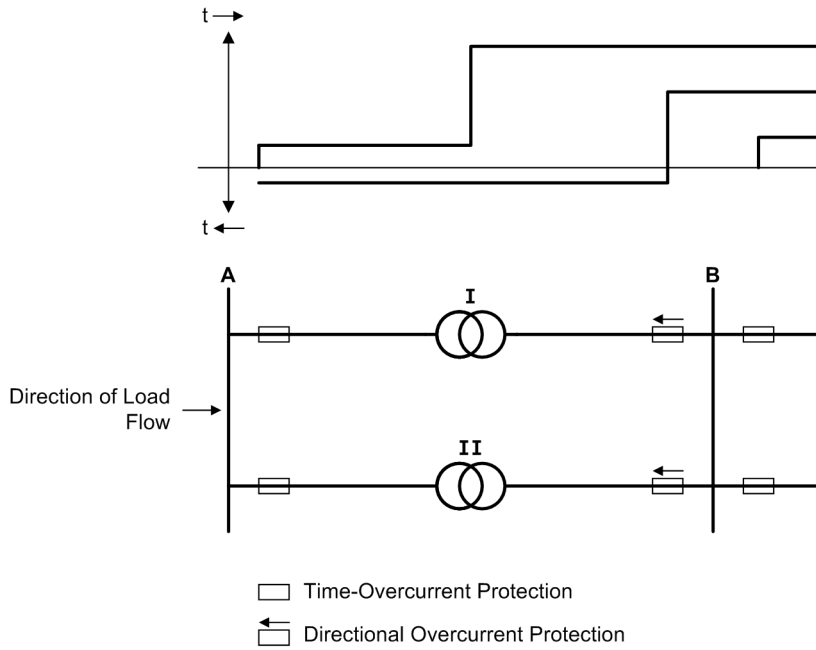

Figure 2-17 Overcurrent protection for parallel transformers
For parallel lines or transformers supplied from a single source (Figure 2-17), the second feeder (II) is opened on occurrence of a fault in the first feeder (I) if tripping of the breaker in the parallel feeder is not prevented by a directional measuring element (at B). Therefore, where indicated with an arrow (Figure 2-17), directional overcurrent protection is applied. Please ensure that the "forward" direction of the protection element is in the direction of the line (or object to be protected). This is not necessarily identical with the direction of the normal load flow, as shown in Figure 2-17.